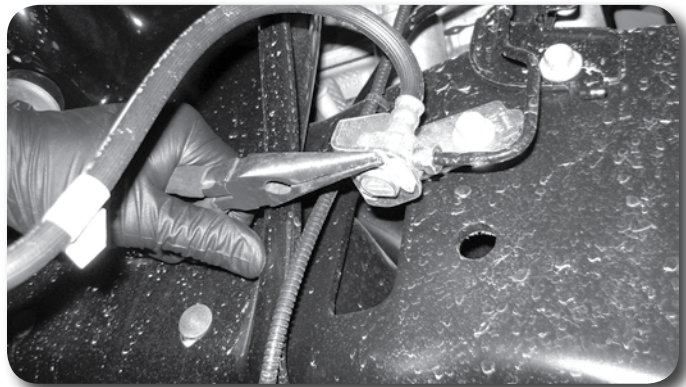
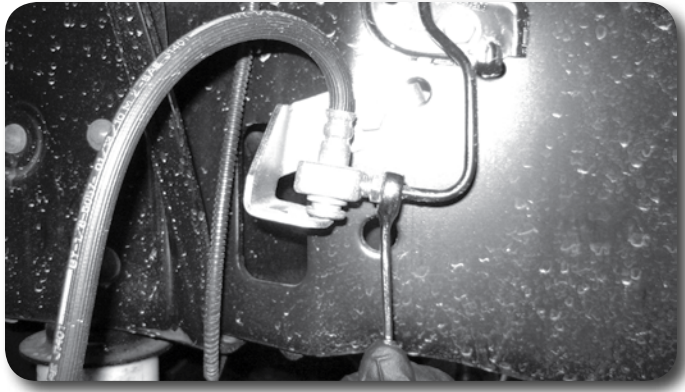

Figure 5A
Figure 5B
8. Remove the clips holding the front brake lines to the brackets on the frame. **Figure 5A** Using a proper line wrench, break loose the hard line at the junction block and rotate it 180 degrees. **Figure 5B** This will put the rubber line to the bottom. Tighten the hard line securely. Leave the brake line loose and save the retaining clip.